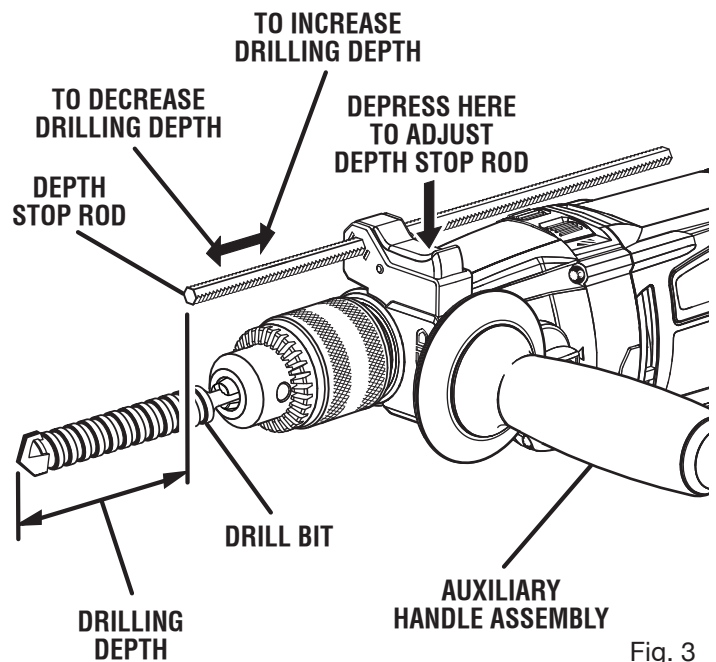

Fig. 3
See Figure 3.
- Insert the depth stop rod as shown in figure 3.